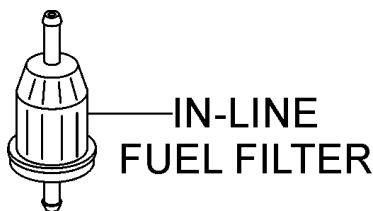

Figure 12. In-Line Fuel Filter
- Inspect in-line fuel filter (Figure 12) and replace if necessary.